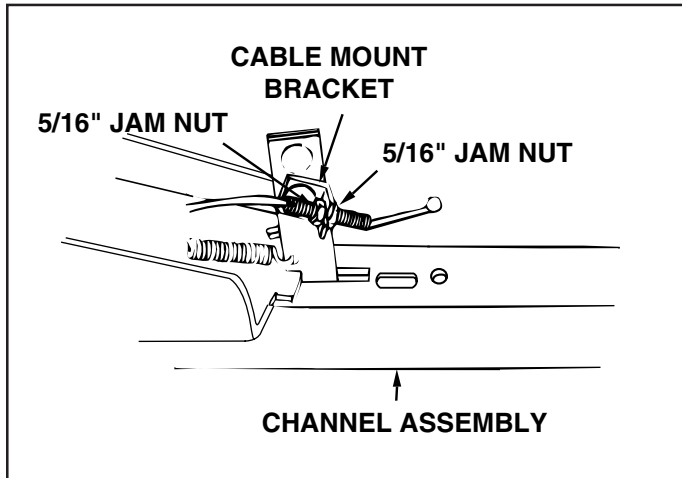

FIGURE 13 (Left Hand Side View)
- Assemble one 5/16 jam nut approximately 3/4" onto threaded end of control cable. Assemble threaded cable end through round hole in cable mount bracket and secure with another 5/16 jam nut. **Tighten**. See figure 13.